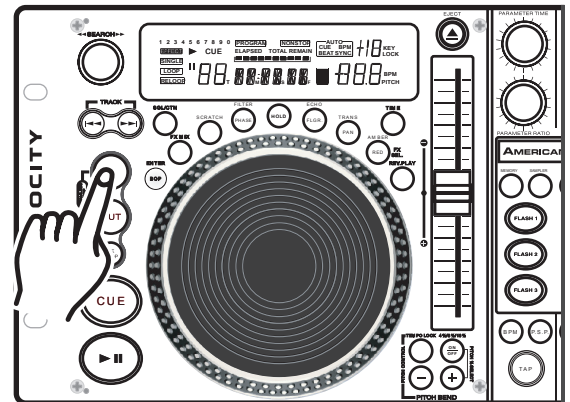

Figure 20
EXITING A LOOP - To exit a SEAMLESS LOOP, press the **OUT BUTTON (2)**. The **IN BUTTON (32)** and **OUT BUTTON (2)** LEDs will remain on, but will stop flashing. Music playback will resume normal play (Figure 20). The **IN BUTTON (32)** and **OUT BUTTON (2)** LEDs will remain on to remind you that a loop is stored in memory.
- 1) Press the **OUT BUTTON (2)** to return to normal play from the loops cue point. (Figure 20). This will disengage the SEAMLESS LOOP mode and allows you to edit the loops ending point.